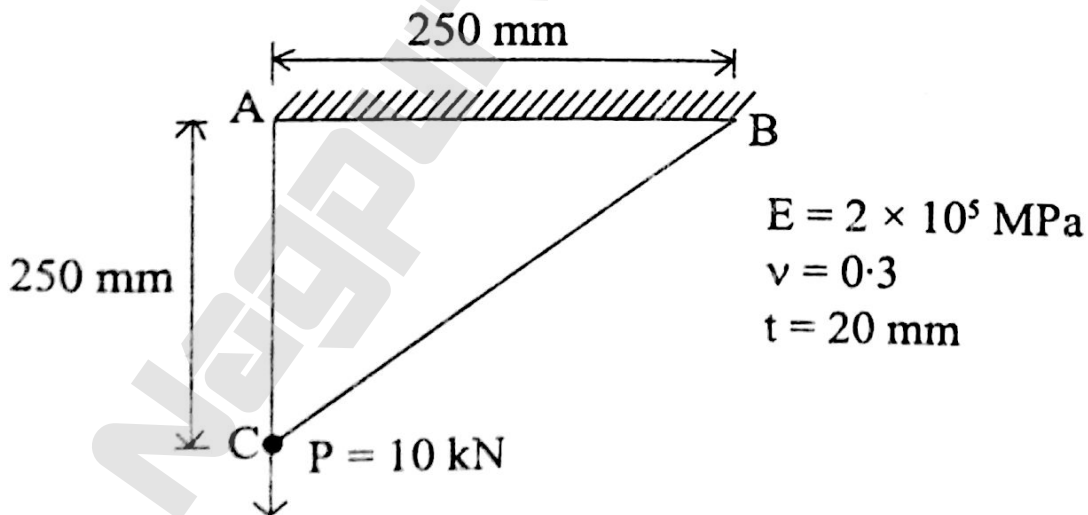

Fig. 4, Q. 9
9. Fig. 4 shows a two dimensional plate of thickness 20 mm. If load $P = 10 \text{ kN}$ is applied as shown in fig. determine the nodal displacement. 13